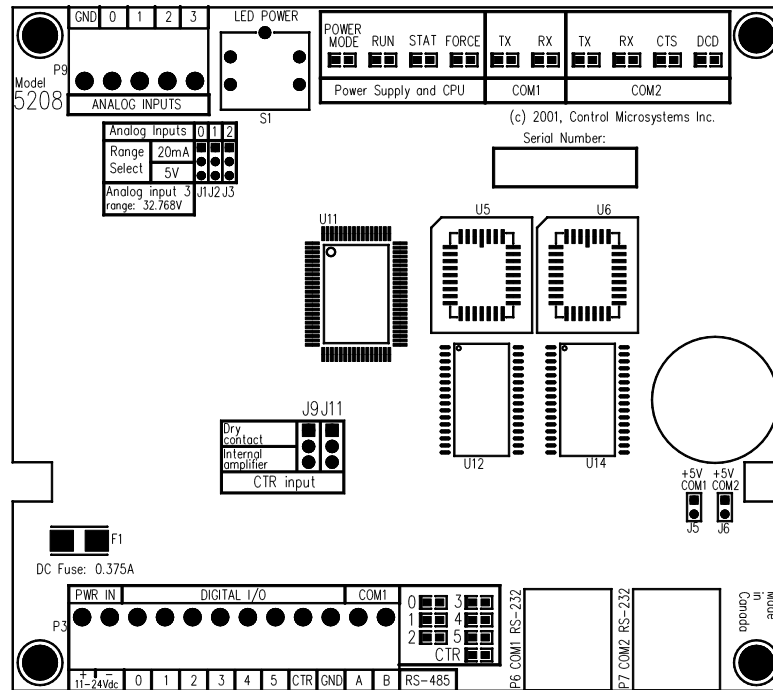

Figure 1: SCADAPack 100 Board Layout
There are six connectors for field wiring. Refer to **Figure 1: SCADAPack 100 Board Layout** for connector locations.
There are four single ended analog inputs available to the user. These analog inputs use a 12-bit, successive approximation, analog to digital converter. The analog inputs have transient reduction and share a common return (GND) that is connected to the chassis. Refer to **Figure 1: SCADAPack 100 Board Layout** for the location of P9.
Serial ports on the SCADAPack 100 controller are designated COM1 and COM2. Refer to **Figure 1: SCADAPack 100 Board Layout** for the location of the serial ports.
- +5V is only available on Pin 1 when a jumper is installed on J5. Refer to the **Figure 1: SCADAPack 100 Board Layout** for the location of J5.